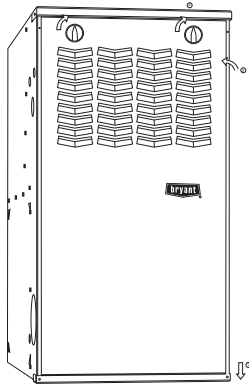

Fig. 10 - Furnace Door Replaced
8. Replace the outer door and tighten the thumbscrew. See Fig. 10.
6. Replace the outer furnace door. (See Fig. 10)